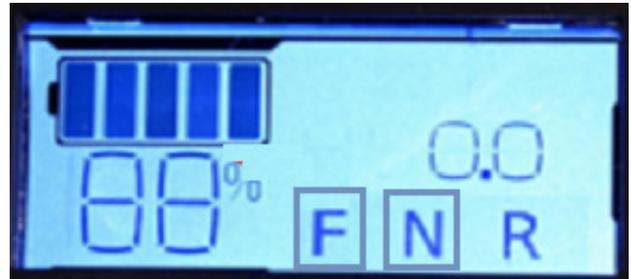

FIGURE 4
11. The “F” & “N” on the screen will have a box around them as shown in Figure 4.